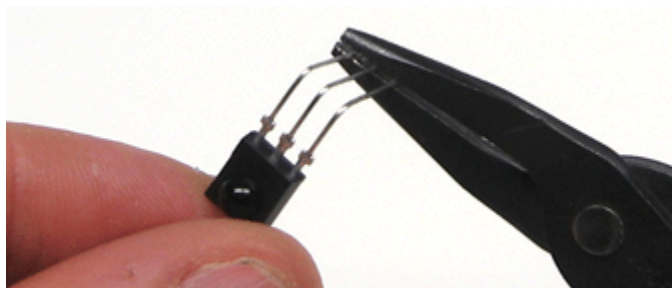

Figure 4. Bending the prongs of the infrared receiver.
1. Using pliers, gently bend a 90-degree angle in the three prongs on the infrared receiver, as shown in Figure 4.